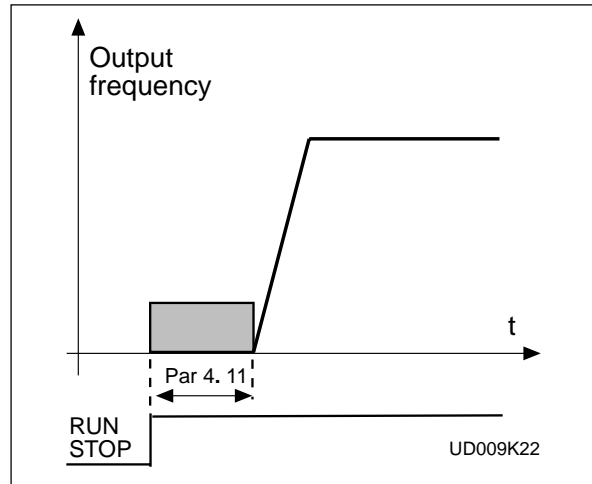

Figure 6.5-15 DC-braking time at start
- >0** DC-brake is activated when the start command is given and this parameter defines the time before the brake is released. After the brake is released output frequency increases according to the set start function parameter 4. 6 and acceleration parameters (1. 3, 4. 1 or 4. 2, 4. 3), see figure 6.5-15.